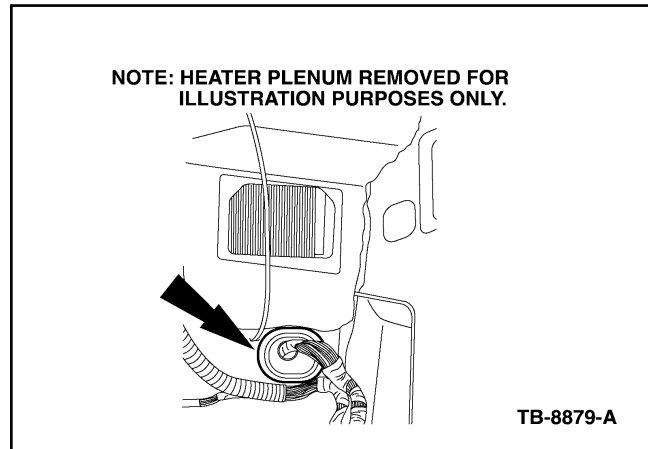

Figure 3 - Article 08-26-7
- a. Position the grommet into the bulkhead making sure the grommet is fully seated and sealed. If there is any aftermarket wiring installed through the grommet, reroute and seal as necessary. To ensure proper sealing around the wiring harness grommet, apply a small amount of Motorcraft Seam Sealer and install the grommet. (Figure 3)